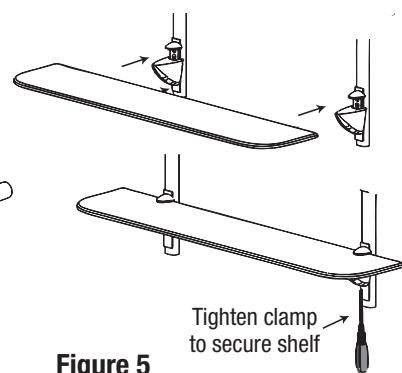

Figure 5
**Step 9:** Attach the shelves by placing them into the shelf clamp. Once in the correct position use a screwdriver to tighten the clamps **Figure 5**.